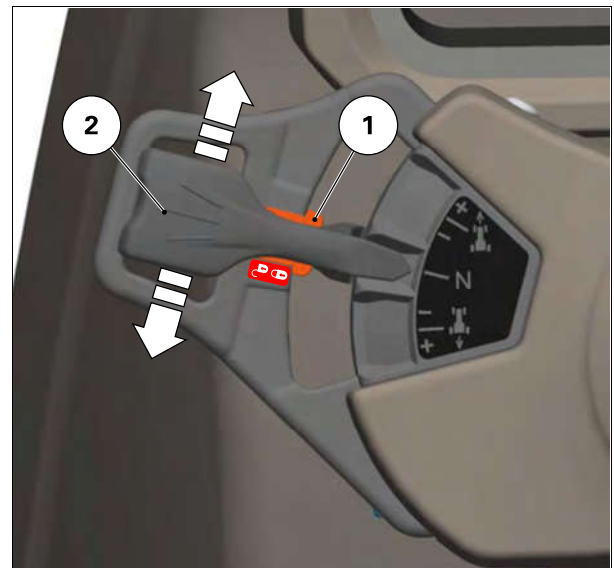

Fig. 5.
Electro-mechanical brake (ParkLock): Unlock brake control (1) .fig. 5
(1) Moving forward